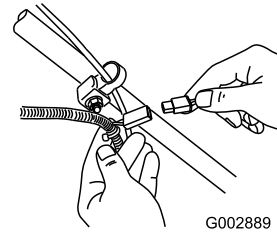

Figure 28
1. Connect the charger to the wire harness located below the ignition key (Figure 28).